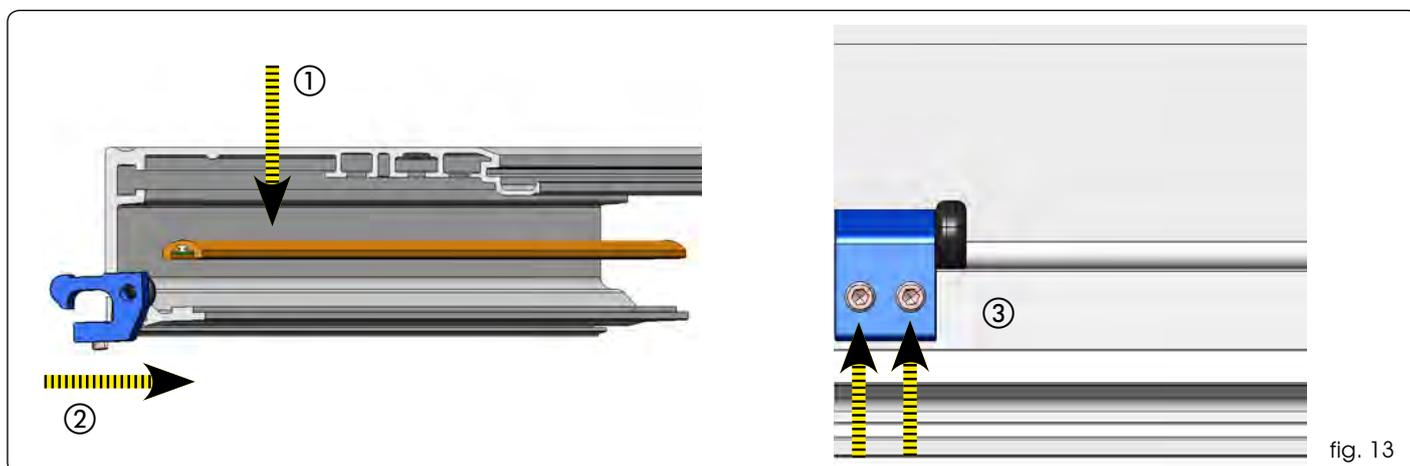

fig. 13
The mechanical stops are 2 for single leaf and to 4 and double leaf . Insert the sliding guide on the profile fig 13-① and insert sideways the mechanical stop fig 13-②.
Then secure it with the 2 Allen screws fig.13 and fig.14-③ .